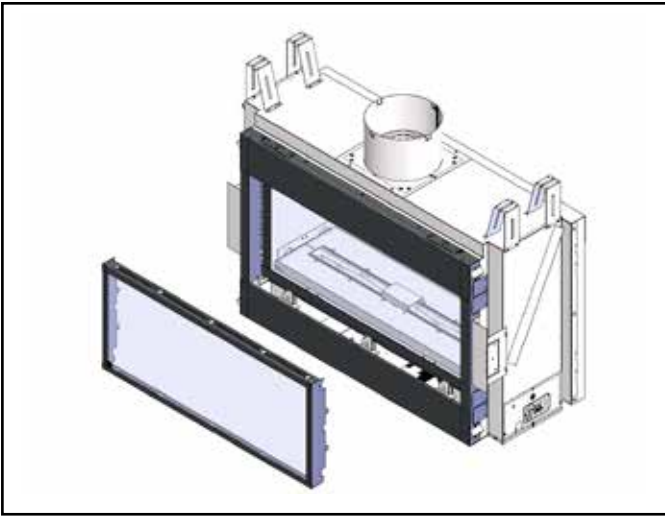

Figure 9.2 Gas and Electrical Access - Remove Glass Window
**Note:** This appliance does include a manual gas shutoff valve that is located in the valve compartment. This manual gas shutoff valve is accessible for service by removing the barrier screen. See Figure 9.2. The valve is most accessible if it is located forward in the control cavity of the appliance.